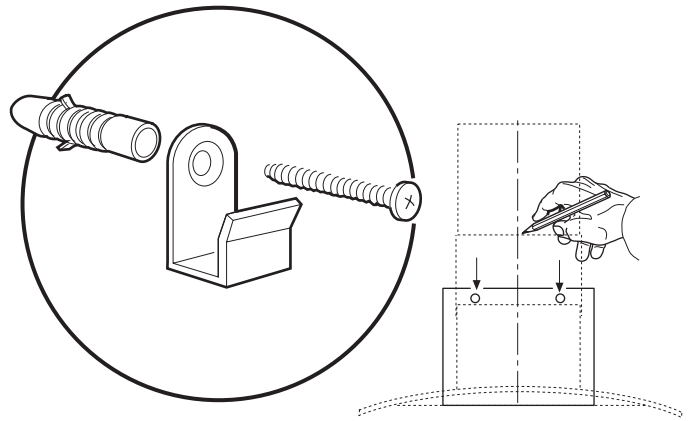

Fig. 4
- Fit the drilling scheme onto the wall at the right height. (Fig. 4)
- On the drilling scheme is printed a line corresponding to the centre of the appliance; with a pencil draw a line up to the ceiling, this will aid installation procedures. (Fig. 4)
- Drill as indicated on the scheme and fit two dowels, two hooks and two screws 5x45. (Fig. 4)